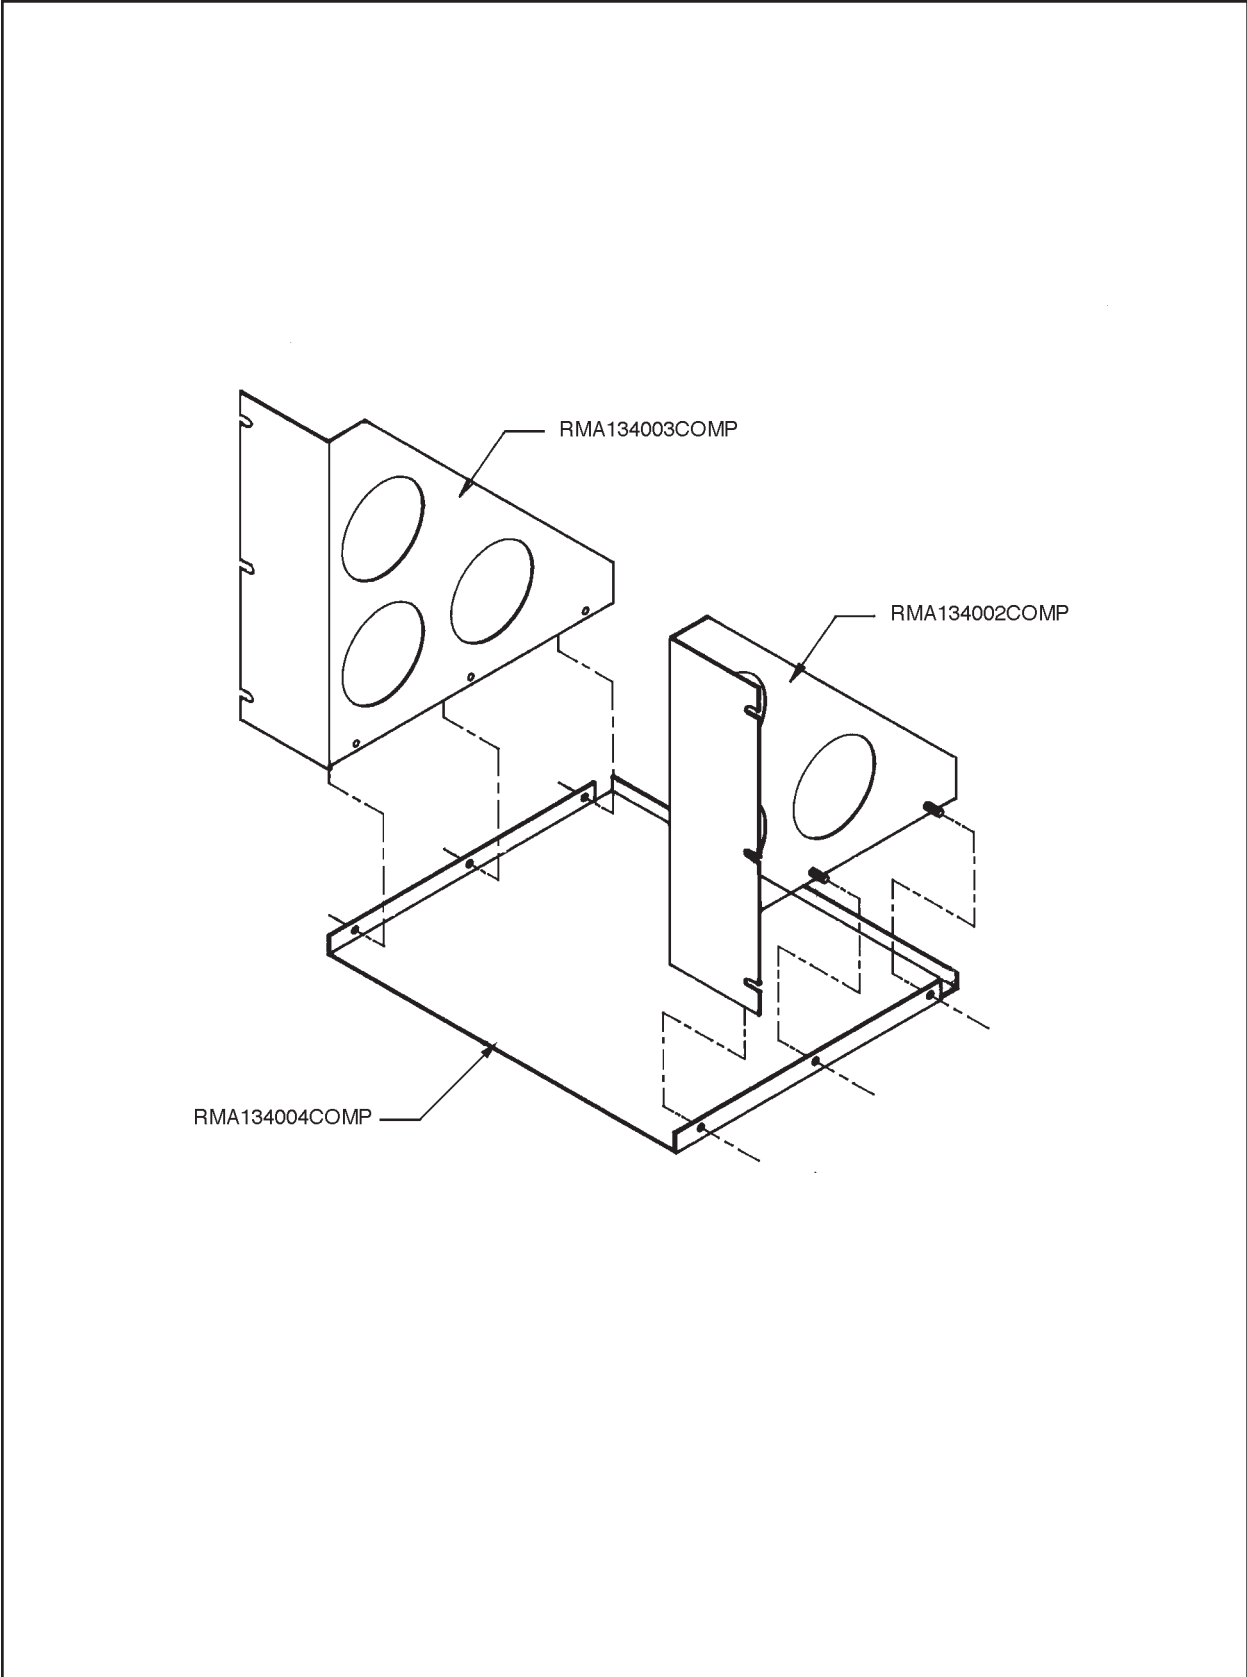

Figure 2. RMA13 Rack Kit Assembly
1. Assemble the rack as shown in Figure 2 using the supplied hardware.